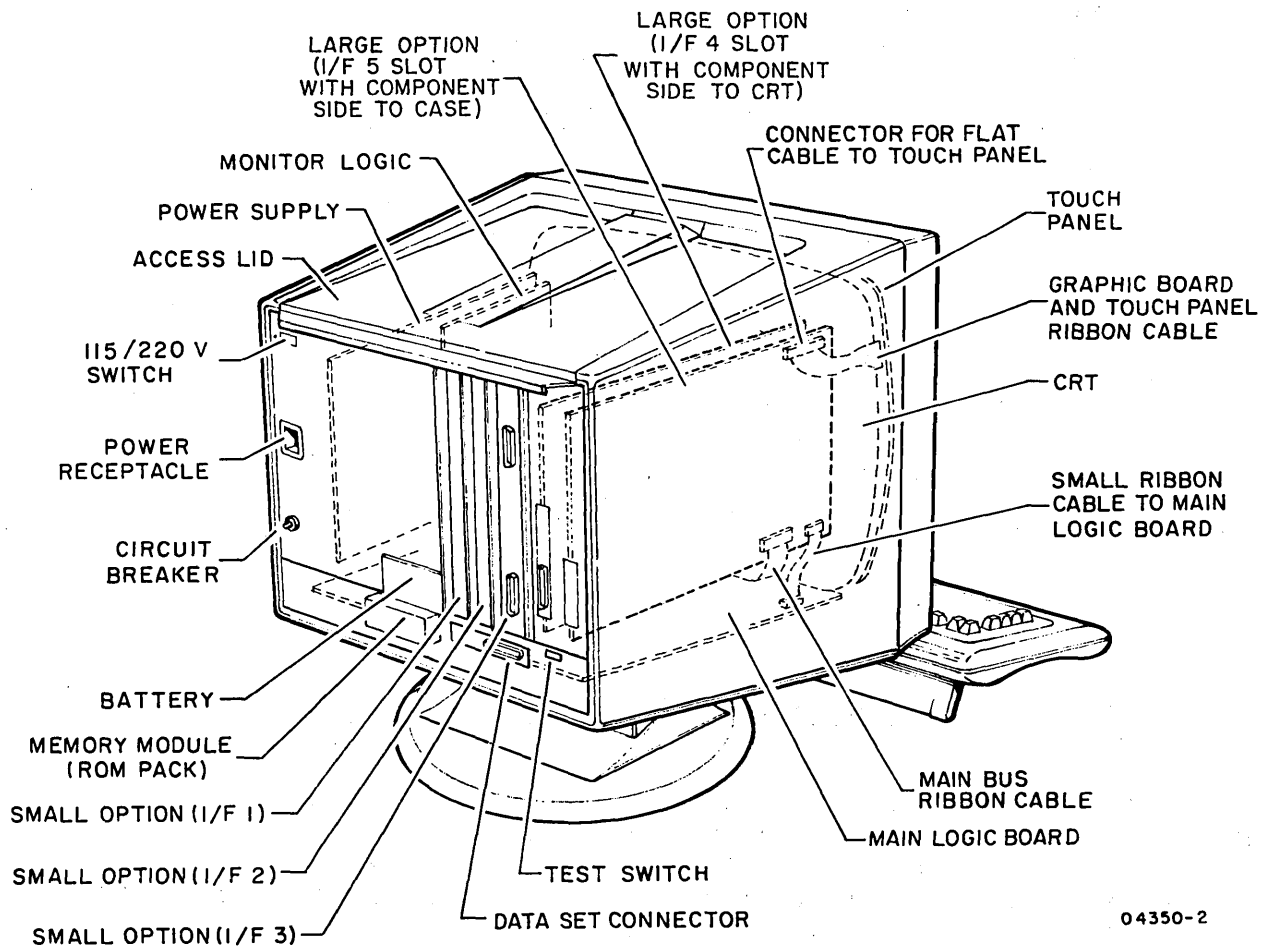

Figure 6B-5. Terminal Parts Identification
4. Remove the two 7 mm (9/32) screws from the rear connector panel as shown in figure 6B-4.
6. To reinstall the logic drawer assembly, position the drawer track as shown in figure 6B-4.
7. Slide the drawer assembly partially into the terminal enclosure (hood) while pushing down on the back of the drawer. This will pull up the drawer track guide enabling it to be seated in the notch provided in the bezel adapter assembly (figure 6B-4).